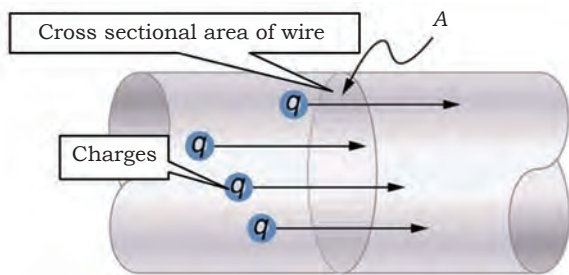

Fig. 1.11: Flow of charge through a cross section 'A'
The amount of current flowing from one place to another is determined by the amount of charge flowing through it per unit of time as shown in Fig. 1.11. The unit of current is ampere (A). Symbolic representation of current is 'I'. Mathematically, it can be written as;